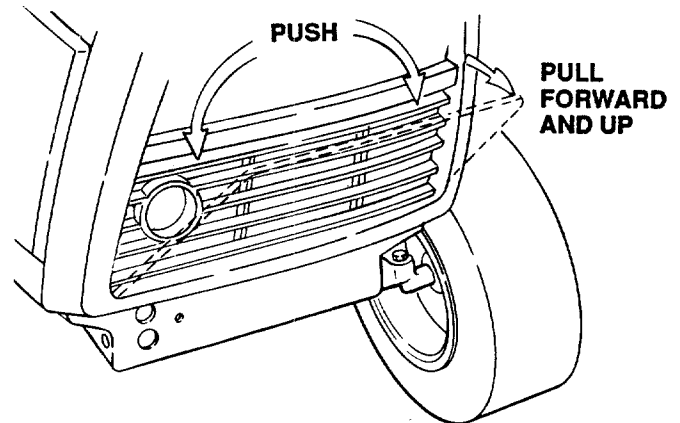

Figure 22
11. Make certain that the backside of the grille insert is clean and unobstructed. Push down on the top of the grille insert and pull forward as shown in Figure 22. Lift the grille insert up removing the tabs from the bottom of the grille housing. Remove by hand any accumulated grass and debris.